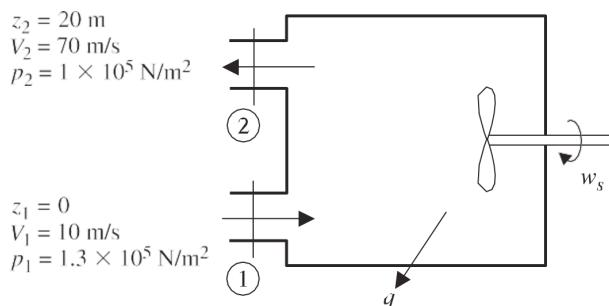

Figure P2.15
2.15 The control volume shown in Figure P2.15 has steady, incompressible flow and all properties are uniform at the inlet and outlet. For $u_1 = 1.256$ MJ/kg and $u_2 = 1.340$ MJ/kg and $\rho = 10$ kg/m³, calculate the work if there is a heat output of 0.35 MJ/kg.